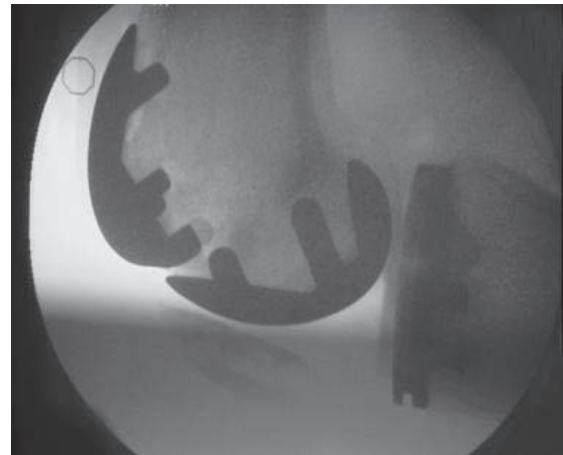

Fig. 59
- Cadaveric testing has shown that adequate clearance between the *Zimmer Gender Solutions* Patello-Femoral and a *Zimmer* Unicompartmental Knee is achieved when proper surgical technique for both prostheses are followed (**Fig. 59**).